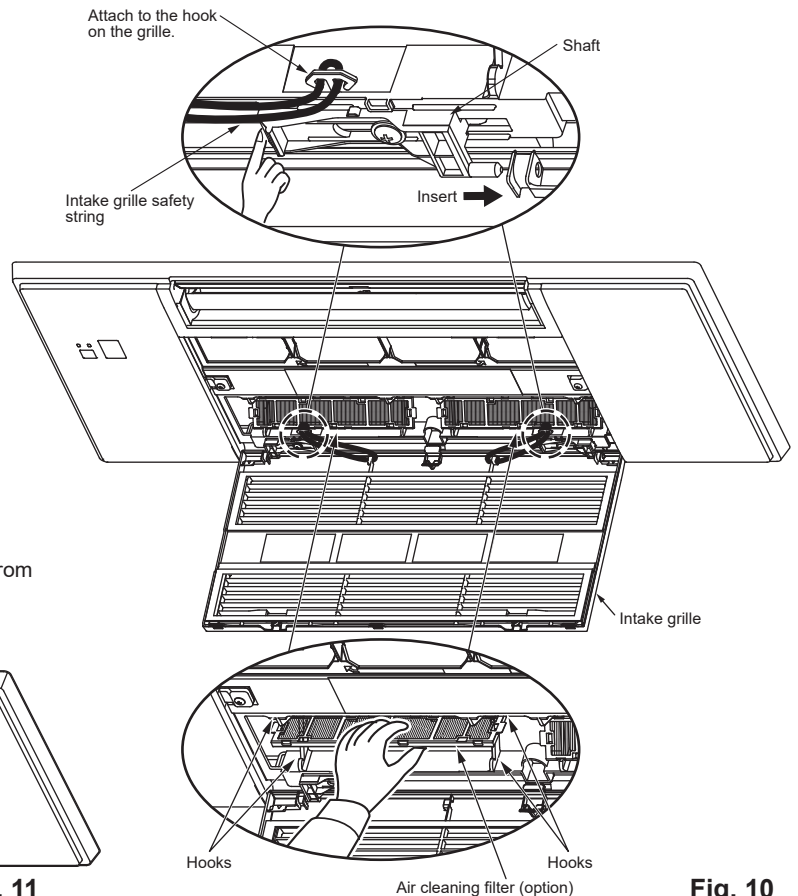

Fig. 10
12. Attach the Air cleaning filters (option) to the hooks for them on the grille. (Fig. 10)